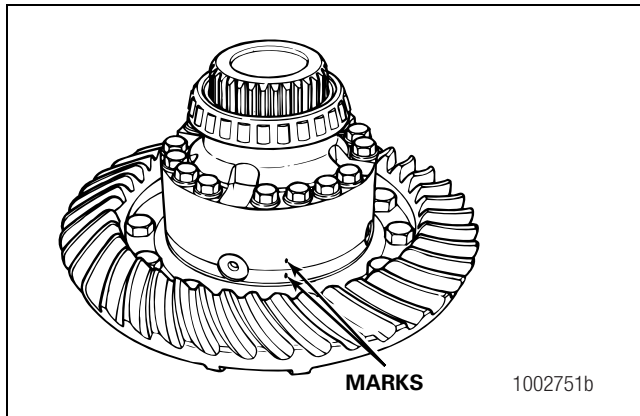

Figure 3.47
1. Use a punch and hammer to mark the case halves. The marks will help you correctly align the case halves during assembly. Figure 3.47.